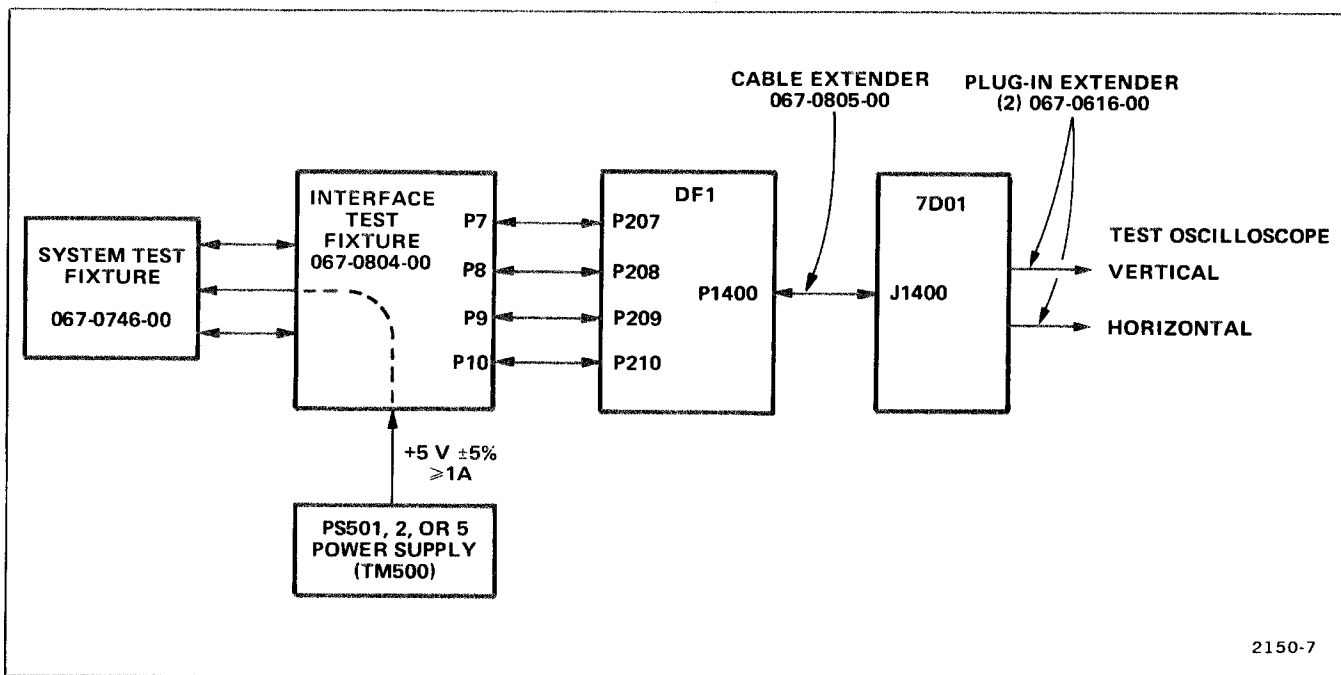
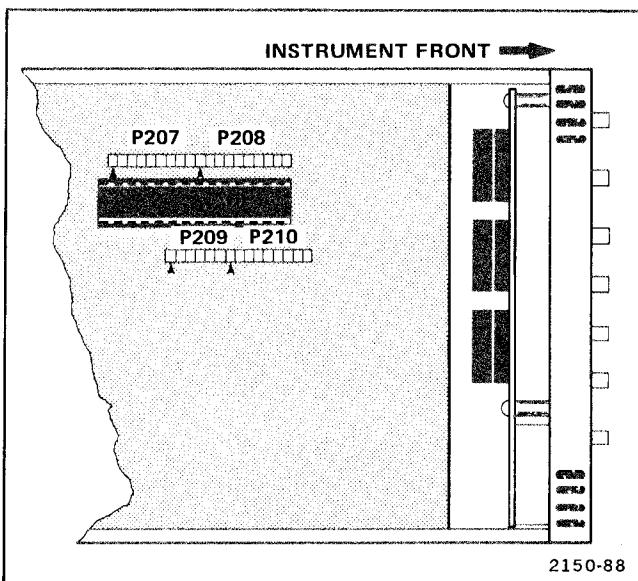

Figure 4-1. Test equipment setup for troubleshooting the DF1 Digital Formatter.
Figure 4-2. Partial view of Intelligence circuit board. Shows pin location and indexing for connection to the Interface Test Fixture.
- a. Connect test equipment as shown in Figure 4-1. The Interface Test Fixture is connected to the DF1 Intelligence circuit board as shown in Figure 4-2.
c. Press the STOP button; the ABA (address bus available) indicator should light. If the ABA indicator does not light, press the RESTART button. If the ABA indicator still does not light, recheck the test equipment setup illustrated in Figure 4-1. Also, check the DF1 clock circuits (01, 02), reset circuit, power supplies, and the Halt line (pin 2 of U264). Check that the BA output (pin 7 of U264) is not excessively loaded or shorted (low). If the ABA indicator